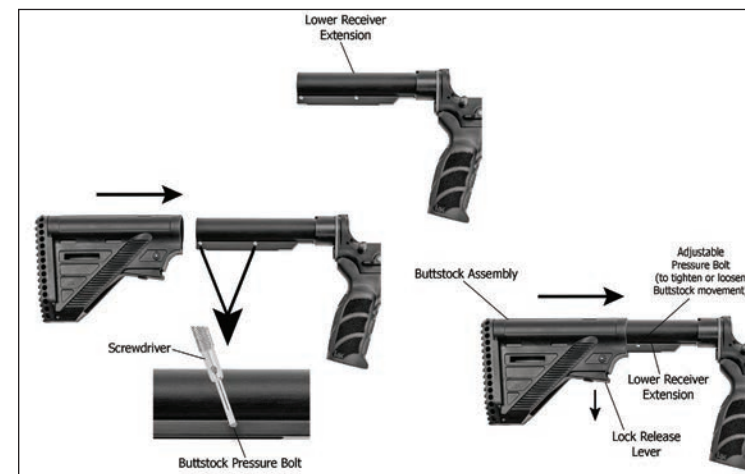

Fig. 28 – Buttstock reassembly
a. Two small set screws are located on the bottom of the receiver extension (buffer tube). These set screws are provided to eliminate any play that may develop between the buttstock and the extension. The left-hand side of the set screw features a detent surface that engages the buttstock. The right-hand surface features a cut to accommodate a small straight slot screwdriver. Rotating the set screws clockwise will tighten the detents to the buttstock; rotating the setscrew counterclockwise will loosen the buttstock. Using a flat head screwdriver, rotate the set screws clockwise using quarter turns and adjust until the detents engage the buttstock but do not hinder removal or installation (Fig. 28)